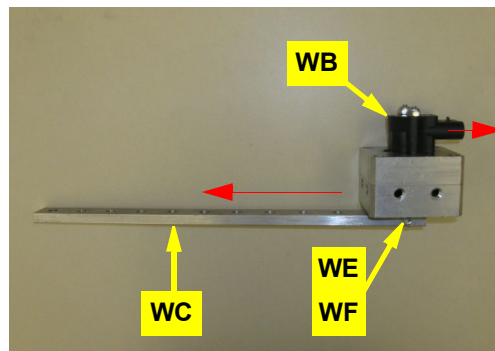

Figure 1c: Attached WAS arm
- c. Using hardware **WE** (nut) and **WF** (screw), attach the cut WAS arm **WC** to the WAS assembly. Mount the arm in the opposite direction to the WAS wire connector (Figure 1c).